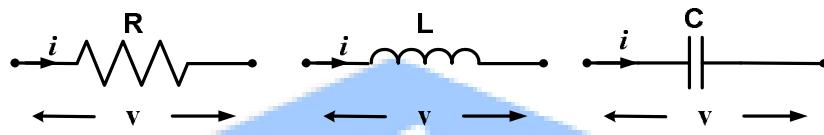

Fig.4.7. Current and voltage shown in resistor, inductor and capacitor
**4.2.1. Voltage source electrical system:** If  $i$  is the current through a resistor(Fig.4.7) and  $v$  is the voltage drop in it, then  $v = Ri$ .
If  $i$  is the current through an inductor (Fig.4.7) and  $v$  is the voltage developed in it, then  $v = L \frac{di}{dt}$ .
If  $i$  is the current through a capacitor(Fig.4.7) and  $v$  is the voltage developed in it, then  $v = \frac{1}{C} \int idt$ .